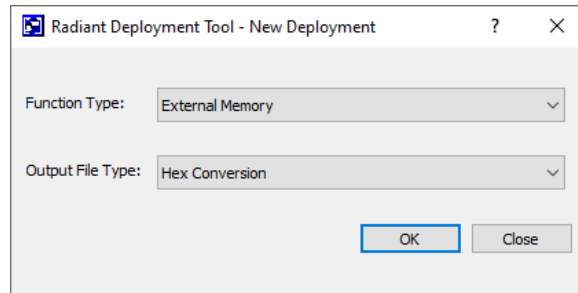

Figure 6.8. Function Type and Output File Selections
6. For Function Type, select **External Memory** and for Output File Type, select **Hex Conversion**. Click **OK**. See Figure 6.8. The following lists the available options and their use cases: